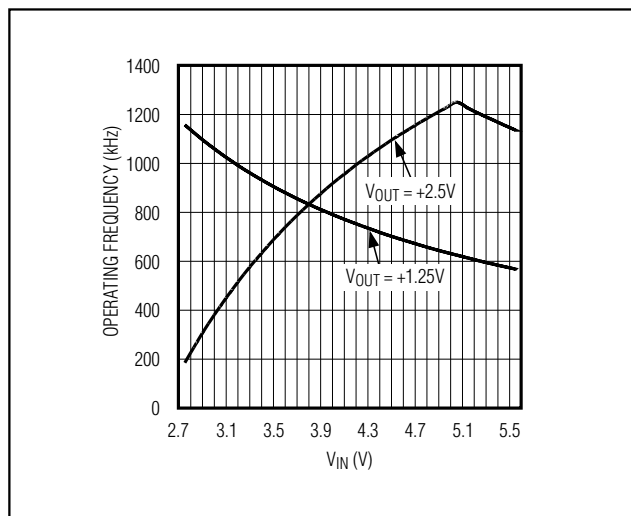

Figure 4. Maximum Recommended Operating Frequency vs. Input Voltage
- 1) Select the desired PWM-mode switching frequency. See Figure 4 for maximum operating frequency.